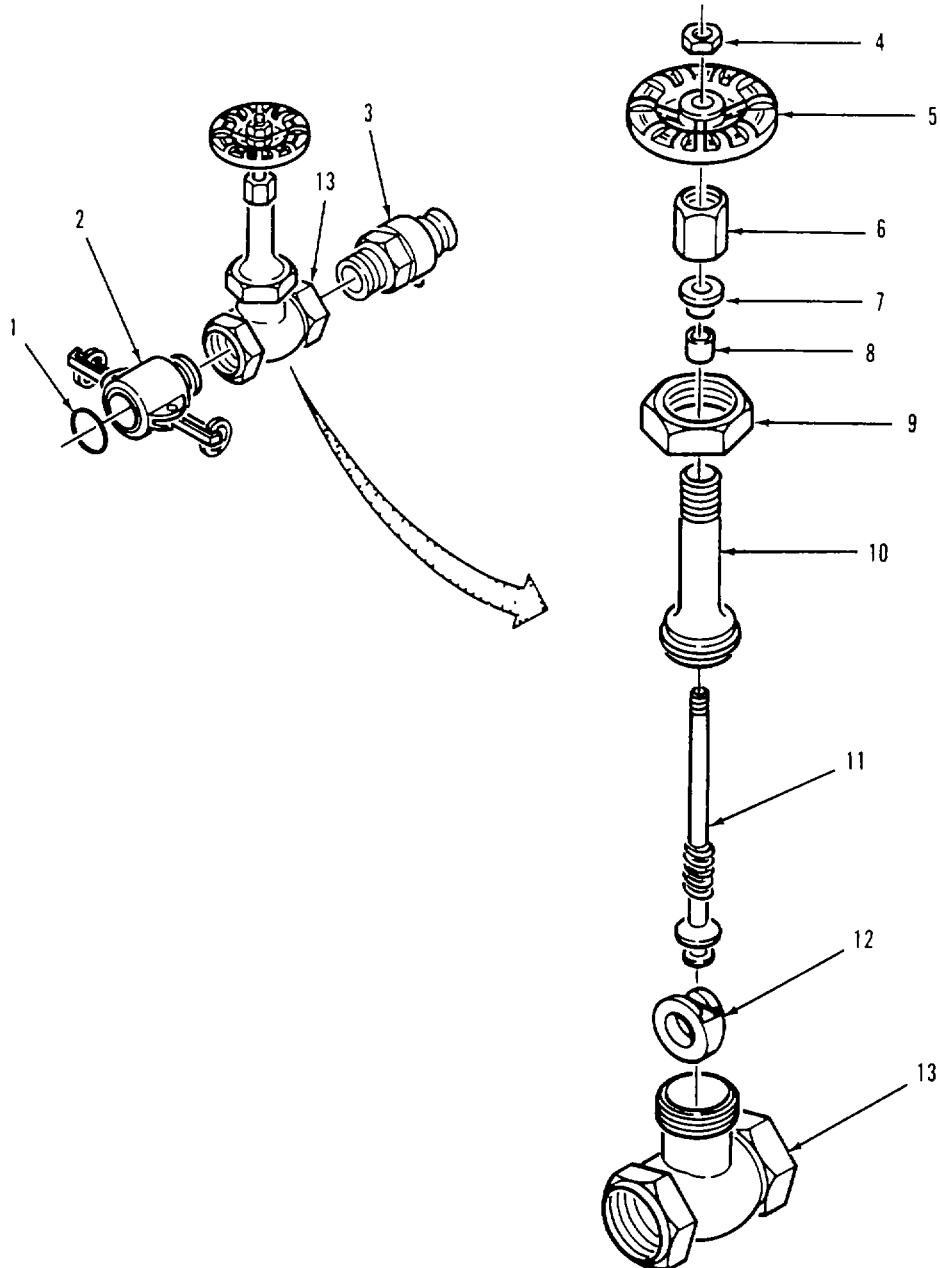

Figure 4-3. Gate Valve Assembly (2-inch) Assembly
- (1) Inspect valve body (13) for cracks and stripped or damaged threads.
- (2) Inspect disc (12) for cuts or scratches across sealing surfaces.
- (3) Inspect bonnet (10) for cracks and stripped threads.
- (4) Inspect stem (11) for stripped, galled or damaged threads.
- (5) Inspect female coupling (2) for cracks, broken lock arms and damaged threads.
- (6) Inspect male coupling (3) for cracks and damaged threads.
d. Repair. Replace all defective parts. Do not reuse packing (8) or gasket (1) If disc (12) or valve body (13) is damaged, replace entire valve.e. Assembly. Refer to figure 4-3.
- (1) Screw stem (11) into bottom of bonnet (10).
- (2) Install new packing (8) and packing gland (7) over stem (11) and into bonnet (10)
- (3) Screw packing nut (6) onto bonnet (10)only finger tight.
- (4) Slide disc (12) onto end of stem (11).
- (5) Lower bonnet (10) and attached parts onto valve body (13) Make sure disc (12) fits in valve body seat.
- (6) Install bonnet ring (9) on valve body (13). Tighten packing nut (6).
- (7) Install handwheel (5) and handwheel nut (4) on stem (11).